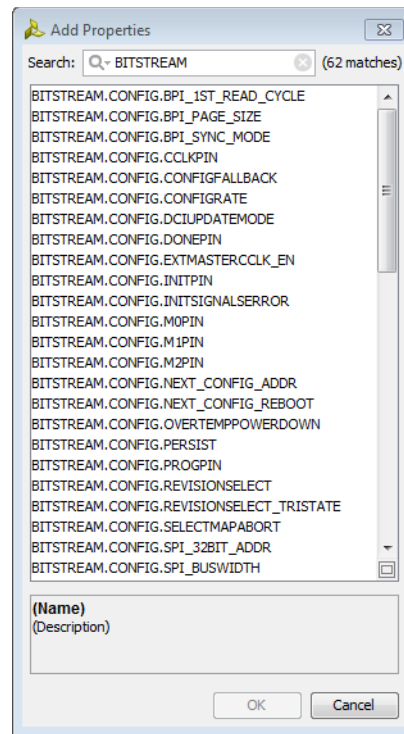

Figure 2-2: Add Bitstream Properties
3. In the **Add Properties** dialog, type BITSTREAM into the **Search** text field. Find and select the desired **BITSTREAM** properties, then click **OK**. (see Figure 2-2)